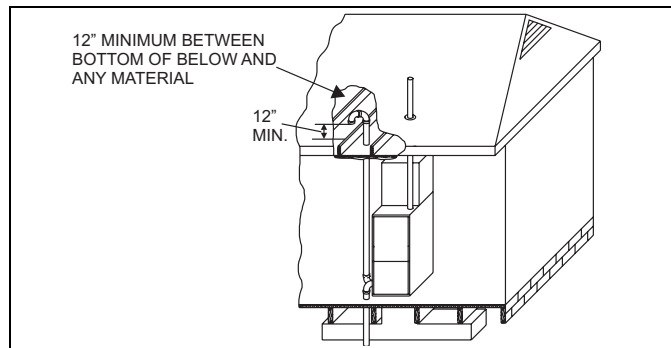

FIGURE 24: Attic Combustion Air Termination
3. **VENTILATED COMBUSTION AIR (Modular Home Installations Only):** Combustion air is supplied through a PVC or ABS pipe that is connected to the PVC coupling attached to the burner box and is terminated in a ventilated attic or crawl space. The combustion air and the vent pipes are not terminated in the same atmospheric zone. Refer to Figure 24 for crawl space and attic termination. Only the combustion air intake may terminate in the attic. The vent must terminate outside.
Refer to Figure 24 for required attic termination for the combustion air intake pipe. For attic termination, use two 90 elbows with the open end in a downward position. Be sure to maintain 12" (30.5 cm) clearance above any insulation, flooring or other material.